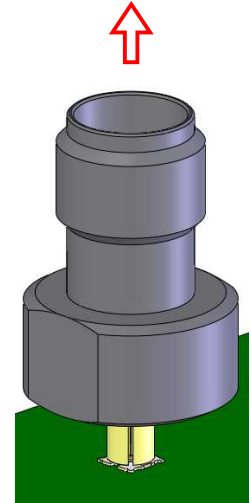

Fig. 10
- ③ In withdrawal, hold the PCB and pull the inspection adapter upward vertically as shown in Fig. 10.